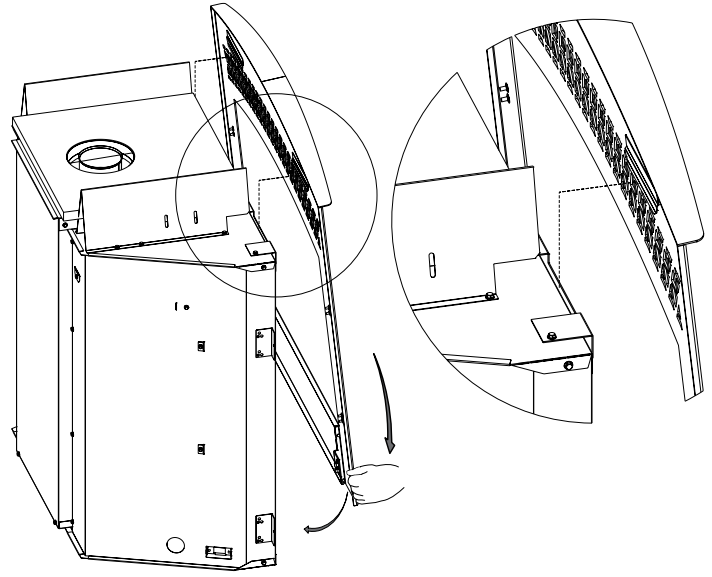

Figure 69
2. Remove decorative front by tilting lower portion forward to release ball catch and lifting front off mounting bracket. See **Figure 69**.